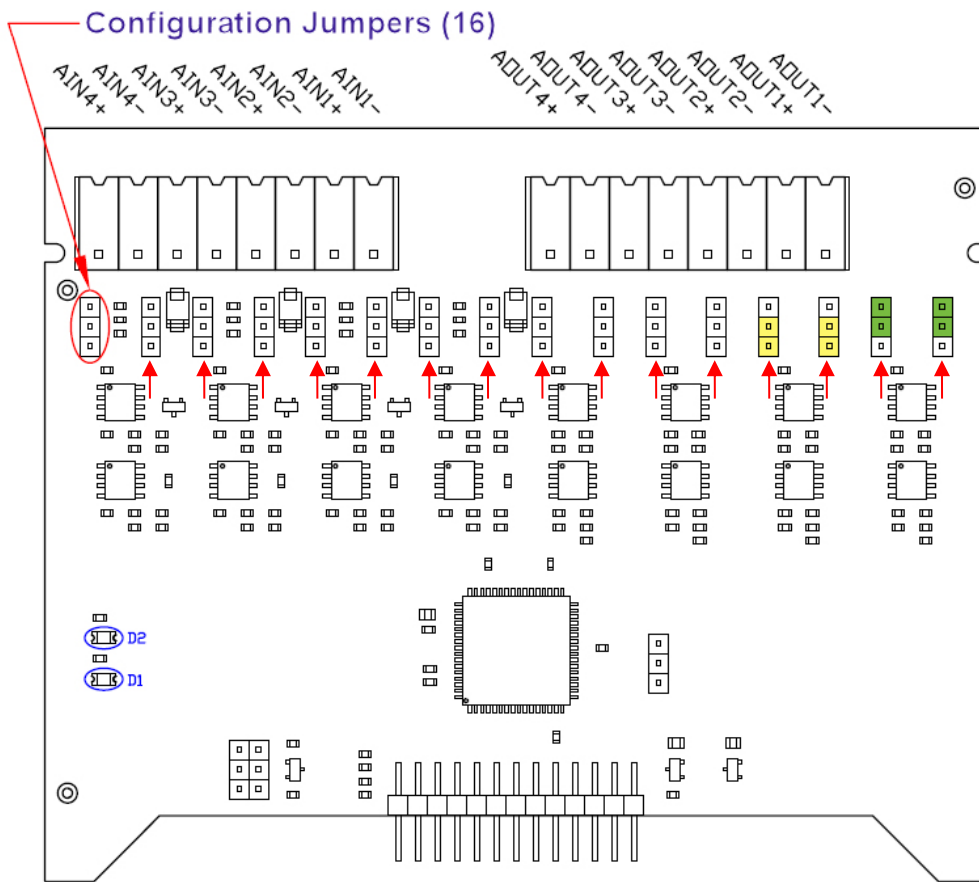

Figure 7. MU6E Analog Card
- **Voltage Mode:** The jumpers (two per channel) must be configured so that two pins—shown in the **GREEN** rectangle in Figure 7—are shorted together.
- **Current Mode:** The jumpers shown by the **YELLOW** rectangle in Figure 7 (two per channel) must be configured so that two pins are shorted together.